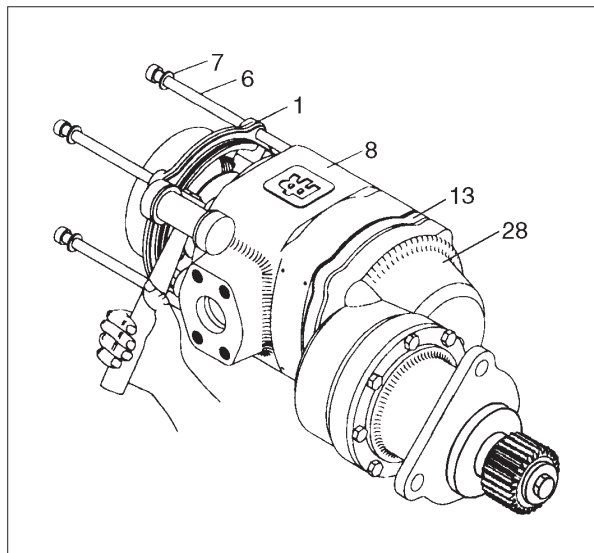

Fig 1.
1) If replacing the motor assembly (12), remove both housing plugs (10) and drain the oil from the gearing before beginning disassembly of the starter. Inspect the magnetic housing plugs (10) for metal particles. Very fine metal particles are normal. Remove particles and reinstall plugs. Large particles or chips are an indication of a problem. Disassemble gear case (28) and inspect.
2) Using a screw driver, unscrew the exhaust cover (67) from the housing exhaust cover (1).
3) Using an 8 mm hex-head wrench, unscrew and remove the starter assembly cap screws (6) and washers (7), *See fig 1.*
4) Pull the housing exhaust cover (1) from the motor housing (8). To dislodge the housing exhaust cover, rotate it until the ears clear the motor housing. Using a plastic hammer, tap the ears alternately until the housing cover can be removed from the motor housing.